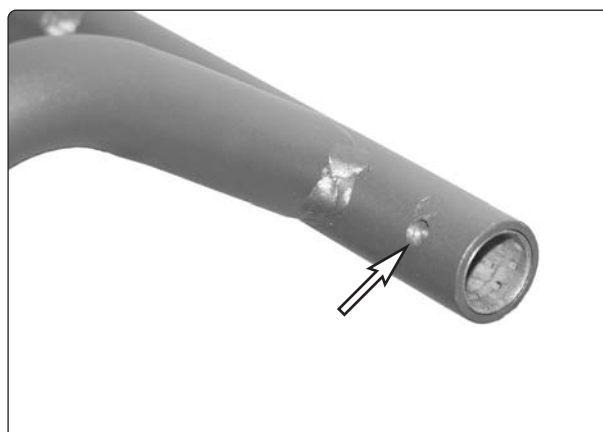

Fig. 41. Hole for deforming the bearing.
2. Deform the bearing by driving a drift through the hole in the bearing seat, see fig. 41. Pull out the deformed bearing using pliers.